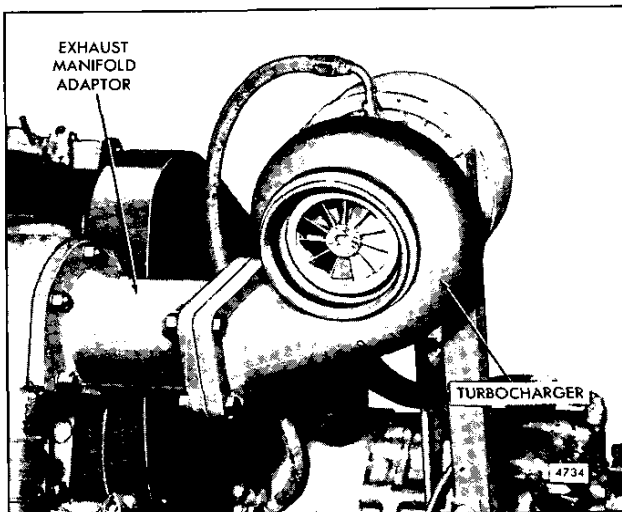

Fig. 1 - Turbocharger Mounting
- a. Insert the blower drive coupling supports through the opening in the rear face of the flywheel housing, with the protruding end of the drive cam facing the drive shaft (Fig. 1).
The TE0675 turbocharger (Figs. 1 and 2) is designed to increase engine efficiency and power output. Power to drive the turbocharger is extracted from the waste energy in the engine exhaust gas.
5. Remove the four bolts, nuts and lock washers securing the turbocharger to the exhaust manifold adaptor and remove the turbocharger and gasket. Refer to Fig. 1.